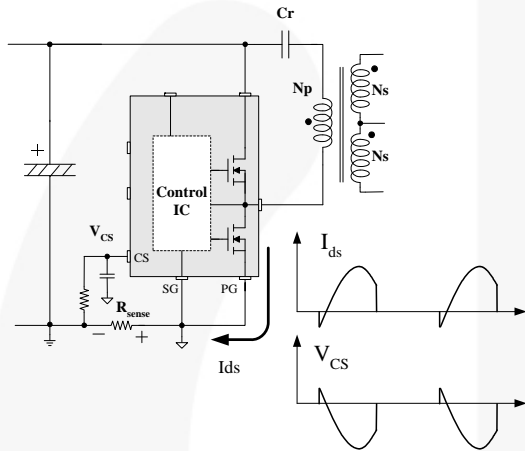
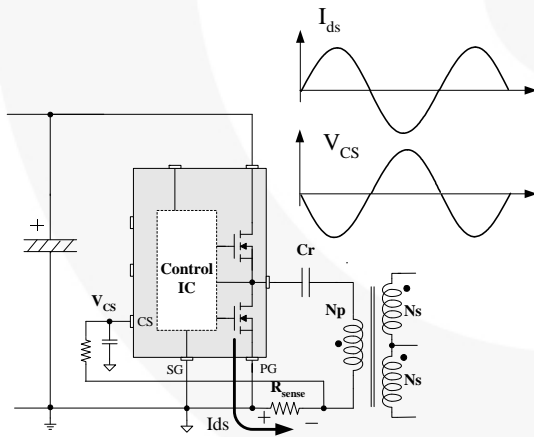

Figure 23. Half-Wave Sensing
Figure 24. Full-Wave Sensing
6. Current Sensing Using a Resistor: FSFR-XS series senses drain current as a negative voltage, as shown in Figure 23 and Figure 24. Half-wave sensing allows low power dissipation in the sensing resistor, while full-wave sensing has less switching noise in the sensing signal.